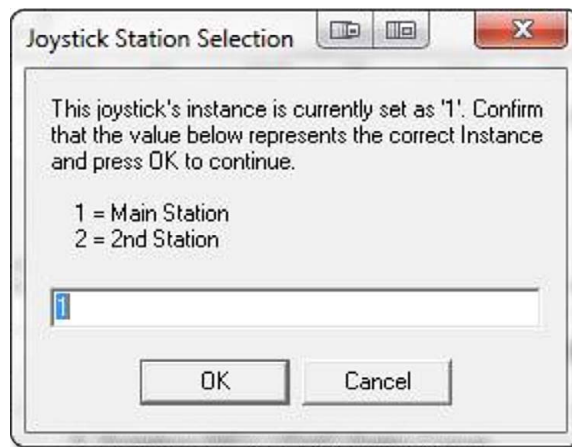

Figure B-21. Joystick instance setting for import.
4. The dialog box shown in figure B-21 will be displayed. Use this dialog to set the instance number of the joystick. If you are configuring a second station joystick, change this instance number to 2. Otherwise, accept the default. Click **OK**.